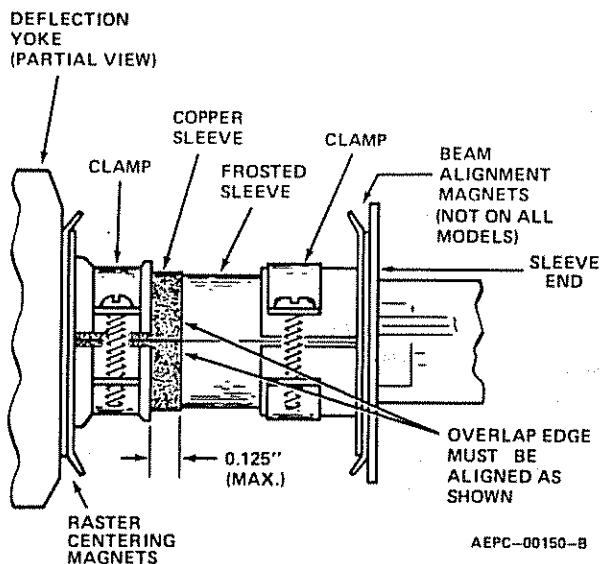

Figure 1. Partial View of CRT Neck/Deflection Yoke for Horiz. Linearity Adjustment
Step 3. (Refer to Figure 1.) Loosen the deflection yoke clamp screw just enough to permit sliding the copper sleeve on the CRT neck back and forth.
Step 4. (Refer to Figure 1.) Position the copper sleeve so that only 1/8" (.125") extends out past the rear lip of the deflection yoke. In addition, be sure that the overlap edge of the copper sleeve is aligned properly and not twisted.
#### RASTER CENTERING (Figure 1)
#### VIDEO CENTERING (For M1000–190 only) (Figure 1)
The beam alignment magnet should be positioned on the neck of the CRT between the deflection yoke and the tube base. The correct location of the rings is approximately over the second grid of the electron gun (Figure 1).